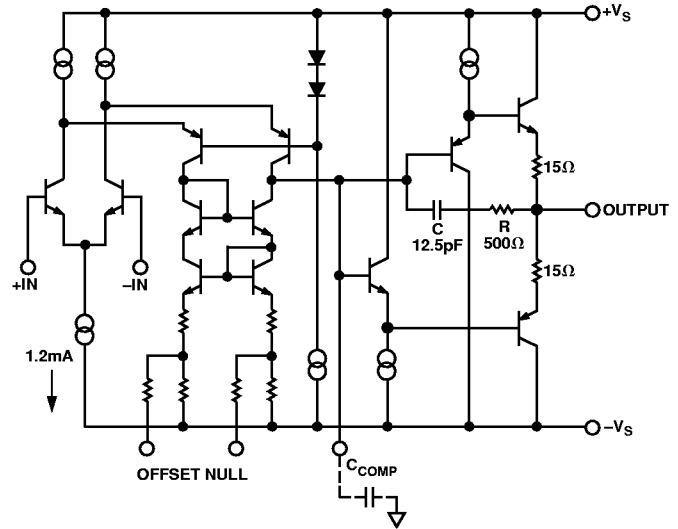

Figure 25. AD829 Simplified Schematic
The AD829 is fabricated on Analog Devices' proprietary complementary bipolar (CB) process which provides PNP and NPN transistors with similar $f_{T's}$ of 600 MHz. As shown in Figure 25, the AD829 input stage consists of an NPN differential pair in which each transistor operates at 600 μ A collector current. This gives the input devices a high transconductance and hence gives the AD829 a low noise figure of 2 nV/ $\sqrt{\text{Hz}}$ @ 1 kHz.
An RC network in the output stage (Figure 25) completely removes the effect of capacitive loading when the amplifier is compensated for closed-loop gains of 10 or higher. At low frequencies, and with low capacitive loads, the gain from the compensation node to the output is very close to unity. In this case, C is bootstrapped and does not contribute to the compensation capacitance of the device. As the capacitive load is increased, a pole is formed with the output impedance of the output stage—this reduces the gain, and subsequently, C is incompletely bootstrapped. Therefore, some fraction of C contributes to the compensation capacitance, and the unity gain bandwidth falls. As the load capacitance is further increased, the bandwidth continues to fall, and the amplifier remains stable.